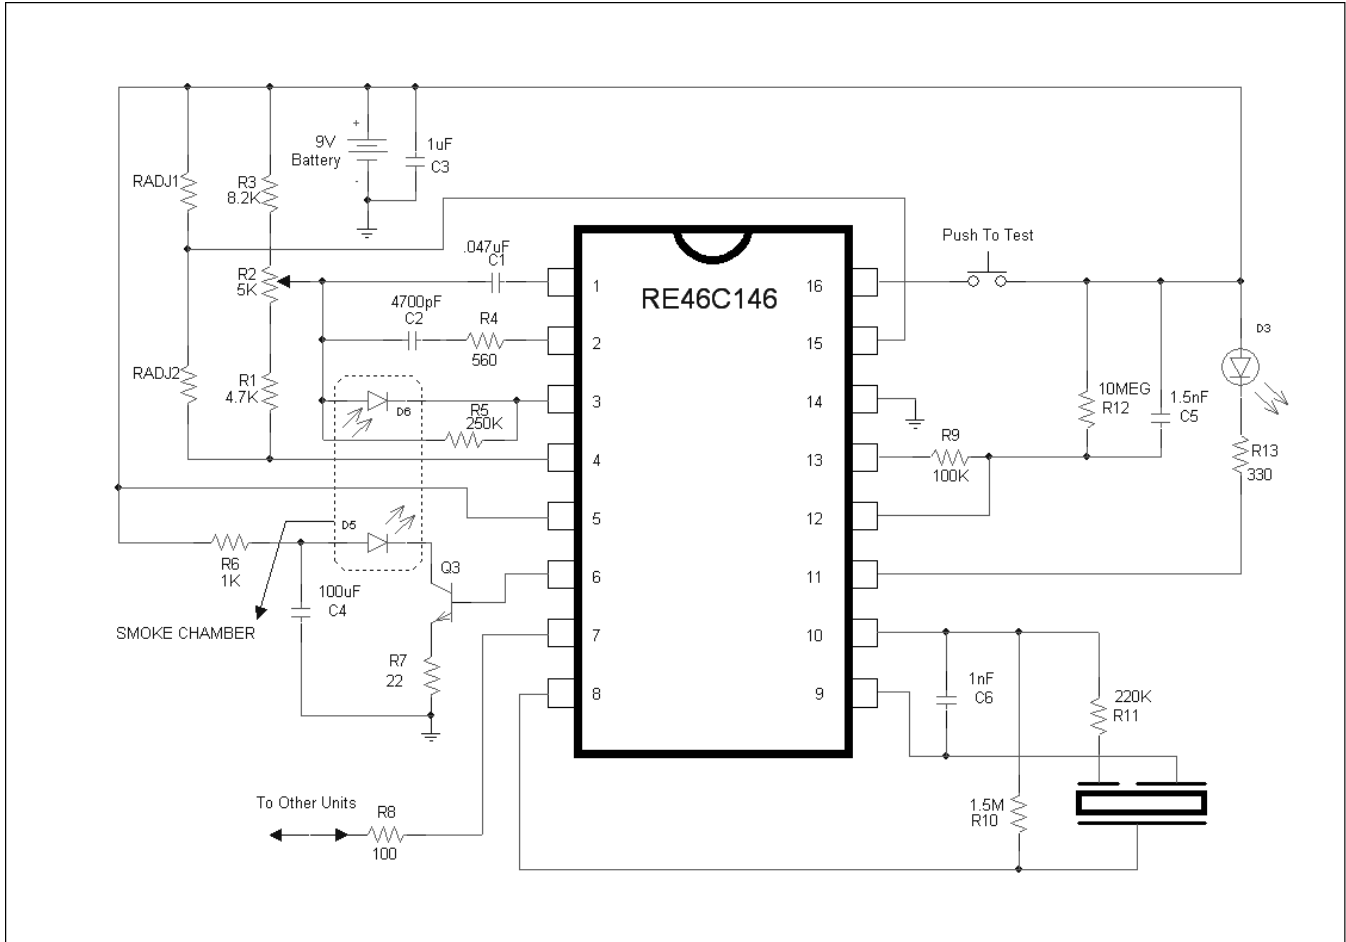

Figure 2
AC Electrical Characteristics at TA = -25° to 75°, VDD=9V, VSS=0V, Component Values from Figure 2 ;
- 1) **The application of the internal 10 minute timer for reduced sensitivity as shown in Figure 2 may be covered by United States patent RE. 33920.**
The oscillator period is determined by the values of R9, R12 and C5 (see typical application FIG 2). The oscillator period $T = T_R + T_F$ where $T_R = .6931 * R12 * C5$ and $T_F = .6931 * R9 * C5$